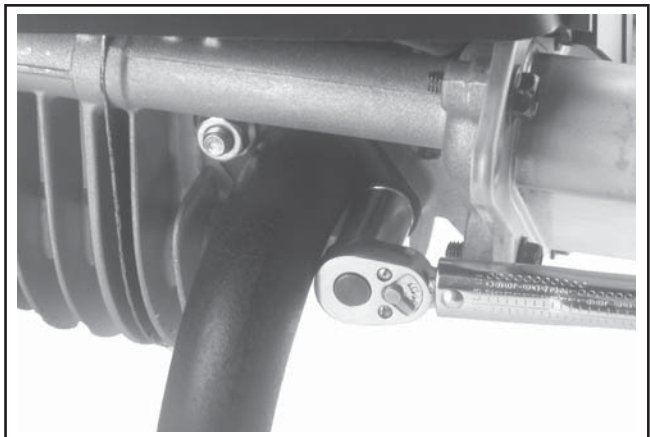

Figure 10-83. Torquing Exhaust Flange Nuts.
3. Torque the hex flange nuts to **24.4 N·m (216 in. lb.)**. See Figure 10-83. Torque the screws to **7.5 N·m (65 in. lb.)**.